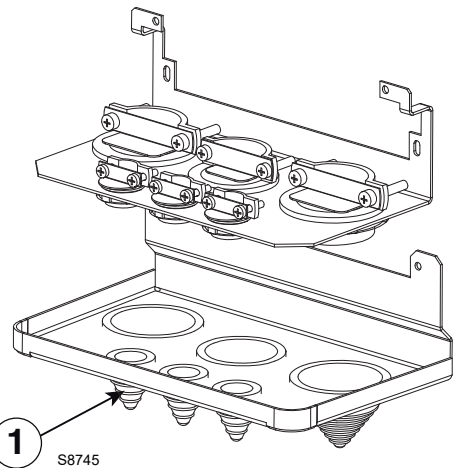

Fig. 8
- use the rubber plugs 1) (Fig. 8) under the inverter for the passage of the shielded cable of the motor.